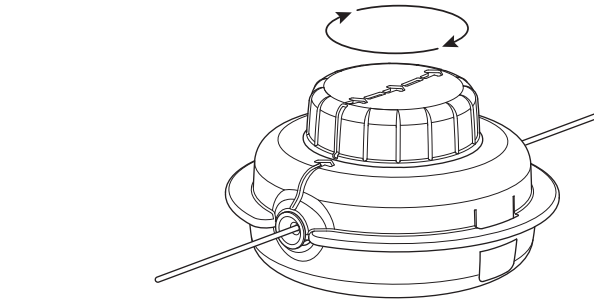

Fig. 15
- Turn the bump knob clockwise to wind the line until about 5 inches (12.7 cm) protrude from each side of the cutting head (Fig. 15). **DO NOT** push the bump knob down while winding the line.